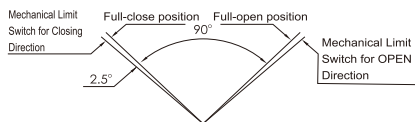

Fig. 10
① If no special requirement, the stroke of actuator is set to 90° between Full-close position and Full-open position at the ex-factory debugging. After the valve is equipped by user, it is necessary to readjust the angle if the Full-close position and Full-open position of the valve are not same as the Full-close position and Full-open position of the Electric actuator. The mechanical limit must match up to the requirement of Fig.10 as you adjust it.
② User is not allowed to adjust the potentiometer and gear as the opening potentiometer of all adjusting type (Type E) has been considered that the possible changes of Full-open and Full-close positions will lead to the deviation of working area of potentiometer when the valve is adjusted.